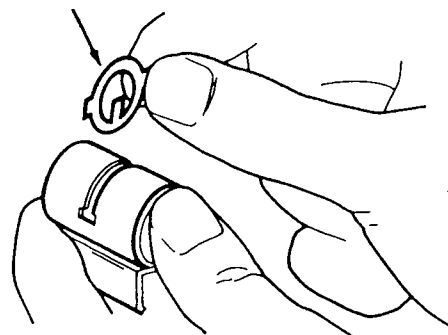

FIG. 6
- Press the cylindrical plunger inward with your thumb. (Fig. 6.)
- Holding the insert by the right hand larger locking ear, insert the aperture into the open slot. (Fig. 6.)